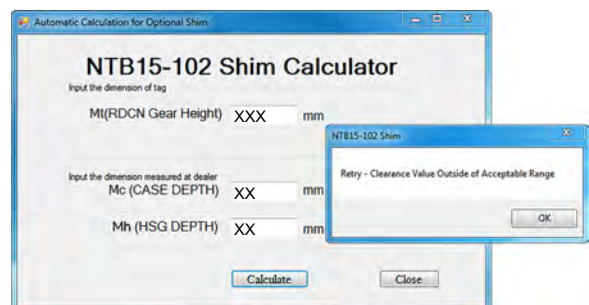

Figure 25
16. If the window in Figure 25 appears: